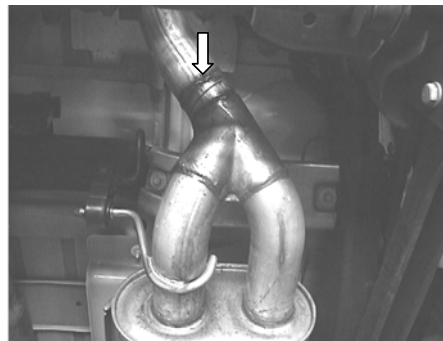

Figure 2
3. Cut the exhaust just after the muffler as shown in figure 2.